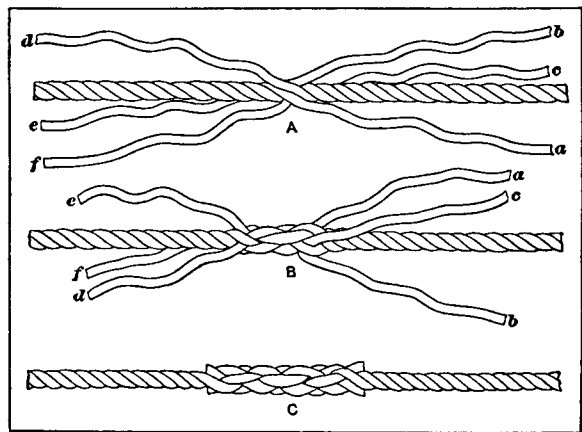
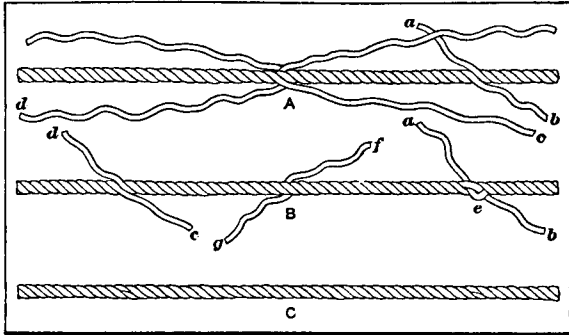

Fig. 1. Method of Making a Short Splice
Fig. 2. Views illustrating how a Long Splice is made
**Making a Short Splice.**— The first step in making a short splice is to unlay or untwist the strands at the end of each rope. The two ends are then placed together as indicated at *A* in Fig. 1, so that each strand lies between two strands of the other rope. The distance that each end should be unlayed, or the length of the untwisted strands, depends upon the diameter of the rope, but the proportion should be about as indicated in the illustration. It is better to have a little extra length, since the projecting ends, in any case, are finally cut off. After the ropes are placed together, as shown at *A*, the strands on one side, as shown at *d*, *e*, and *f*, are either held together by the left hand or are fastened together with twine, in case the rope is too large to be held by the hand. The splicing operation is started by taking one of the strands as at *a*, and passing it across or over the adjacent strand *d* and then under the next strand *e*, after having made an opening beneath strand *e*. The strands *b* and *c* are next treated in the same manner, first one and then the other being passed over its adjoining strand and then under the
**Making a Long Splice.** — When a rope has to pass through pulley blocks, or in case any increase in the size of the rope would be objectionable, the short splice is not suitable and the long splice should be employed. The diameter of a long splice is the same as that of the rope and, if the work is done carefully, the place where the ends are joined can scarcely be distinguished from the rest of the rope. The ends of each rope are first unlaied or untwisted the same as when making a short splice, but for a distance about three times as long. These ends are then placed together so that each strand lies between two strands of the other rope, the same as shown at *A*, Fig. 1, for a short splice. One of the strands is next unlaied and then a strand from the other rope is curled around into the groove thus made, as indicated at *A* in Fig. 2, strand *a* having been unlaied and strand *b* from the other rope end, put into its place. Care should be taken to twist strand *b* so that it will lie in its natural position into the groove previously occupied by strand *a*, as the neatness of the splice will depend partly upon the care with which this part of the work is done. This operation is then repeated in connection with strands *c* and *d*, strand *c* being unlaied and strand *d* twisted around to occupy the groove thus made. The splice will now be as shown at *B*, and the next step is that of disposing of the protruding ends of the strands. After these strands have been cut to about the length shown at *B*, two of the strands, as at *a* and *b*, are first reduced in size by removing about one-third of the fiber; these ends are then tied by an overhand knot as shown at *e*. After tightening this knot, the protruding ends may be disposed of the same as when making a short splice, or by